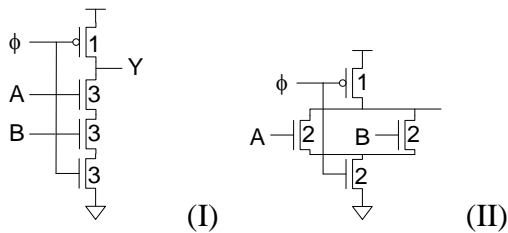

Fig. 3
- Write the Boolean expression of *Generate* (G) and *Propagate* (P) signals. (2.5%)
- Consider the dynamic logics as shown in Fig. 3 (5%)